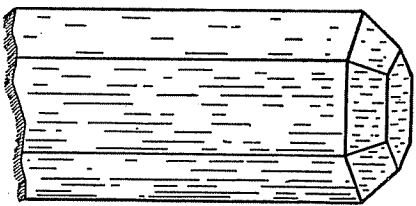

Fig. 34
**Crystals System**—Crystals usually long prismatic in habit. Sometimes found in short prisms. (Fig. 34).